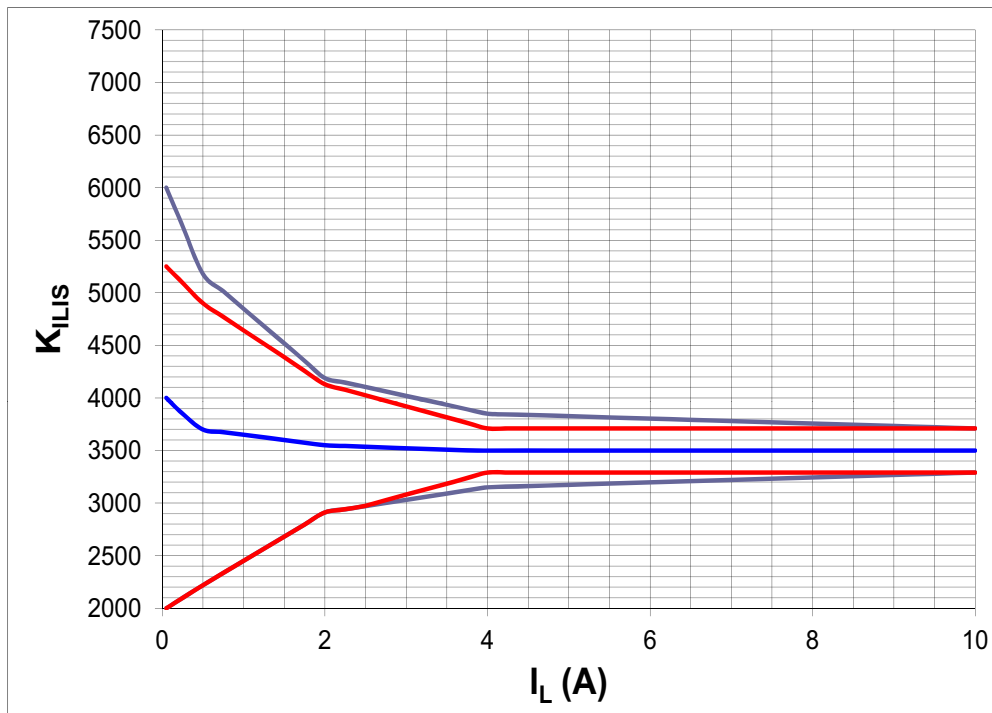

Figure 22 Improved SENSE Accuracy with One Calibration Point
**Figure 21** and **Figure 22** show the current sense as a function of the load current in the power DMOS. Usually, a pull-down resistor  $R_{IS}$  is connected to the IS pin. This resistor has to be higher than  $560\ \Omega$  to limit the power losses in the sense circuitry. A typical value is  $1.2\ k\Omega$ . The blue curve represents the ideal SENSE, assuming an ideal  $k_{ILIS}$  factor value. The red curves show the accuracy the device provide across full temperature range, at a defined current.
In some applications a better accuracy is required around half the nominal current  $I_{L(NOM)}$ . To achieve this accuracy requirement, a calibration on the application is possible. To avoid multiple calibration points at different load and temperature conditions, the BTS5016-2EKA allows limited derating of the  $k_{ILIS}$  value, at nominal load current ( $I_{L3}$ ;  $T_j = +25\ ^\circ\text{C}$ ). This derating is described by the parameter  $\Delta k_{ILIS}$ . **Figure 22** shows the behavior of the SENSE current, assuming one calibration point at nominal load at  $+25\ ^\circ\text{C}$ .
| $k_{ILIS}$ derating with current and temperature                              | $\Delta k_{ILIS}$         | -5     | 0    | +5   | %             | 3) $k_{ILIS3}$ versus $k_{ILIS4}$See <a href="#">Figure 22</a>                                                                                            | P_7.5.17 |